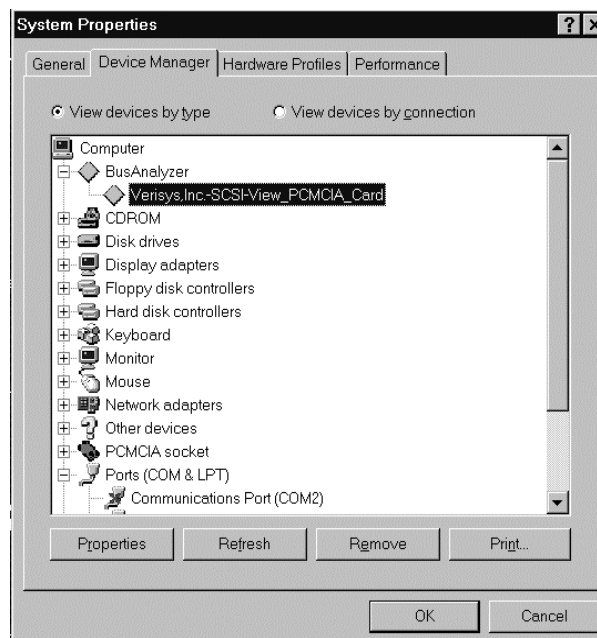

Figure 18
- Double Click on **Verisys, Inc.-SCSI-View_PCMCIA_Card**.(Figure 18)